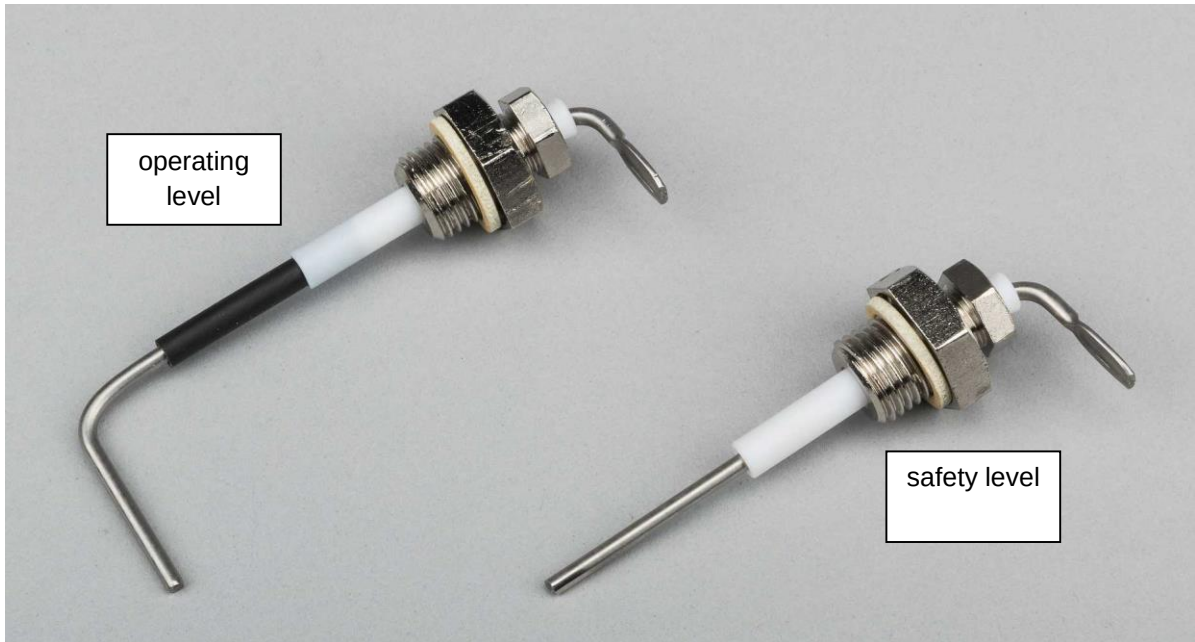

Figure M 15. Showing operating level (left) and safety level (right) probes.
8. Clean the metal end of the probes with a well-used plastic scrub pad (see *Figure M 15*). Scale and dirt adheres better on a rough surface: try not to scratch the probes.